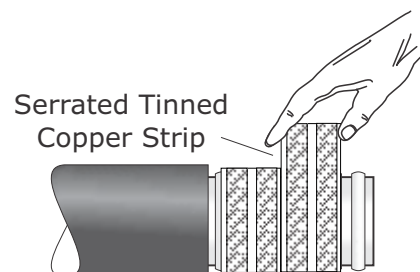

Fig 17
22. If picas, expose aluminium layer to 130mm as in Fig 16. Clean and abrade and wrap two turns of serrated tinned copper strip around it in place of the tinned copper mesh (Fig 17). For an improved connection, abrade metal sheath and apply approved jointing compound e.g penetrox over the earth bond area. This stage could be completed at a later stage prior to fitting the armour cage.